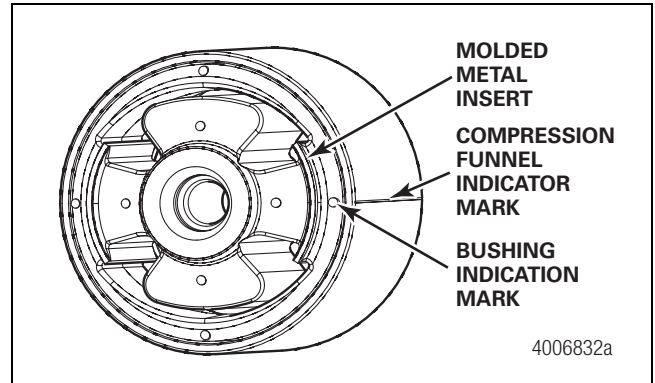

Figure 5
4. Insert the multi-functional bushing into the large I.D. end of the compression funnel. Verify that the bushing mark is aligned with the compression funnel indicator line. Use the bushing indicator mark adjacent to the molded metal insert. Figure 5.